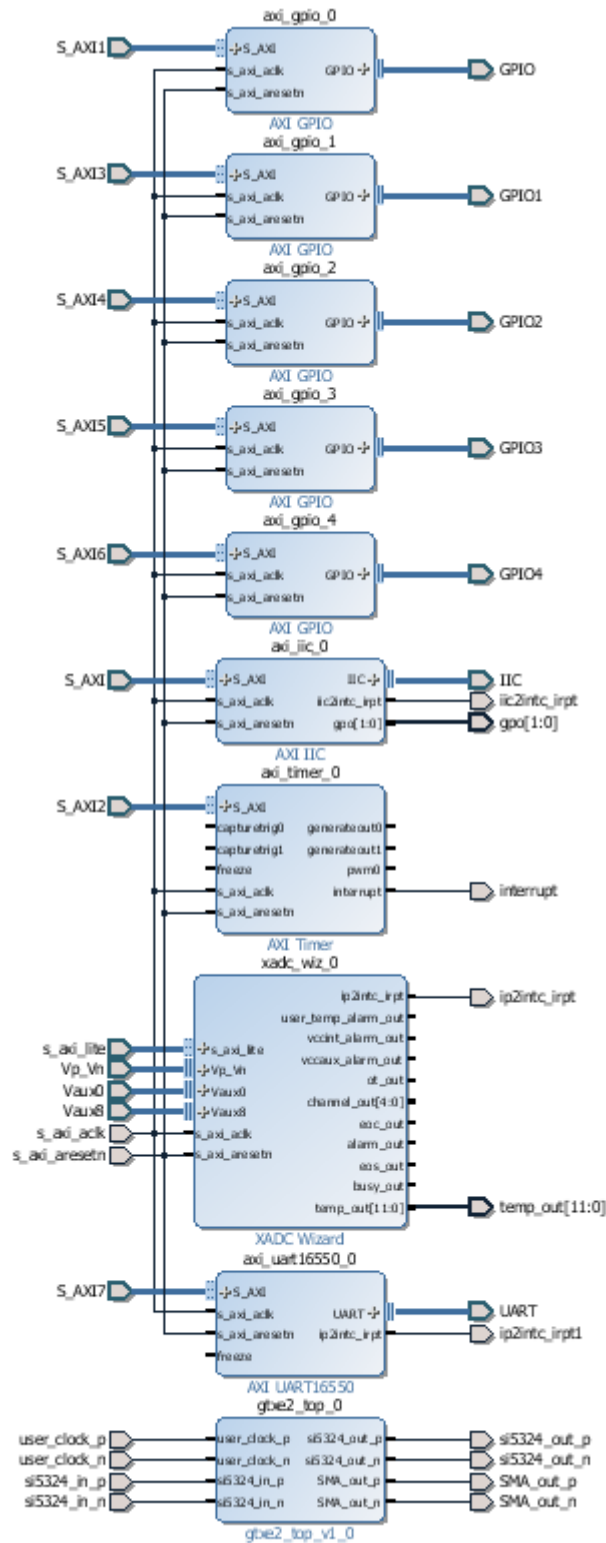

Figure 6: I/O subsystem
- Hierarchical block "io" contains standard I/O peripheral interfaces, timer, uart, analog digital converter, temperature sensor. See Figure 6.